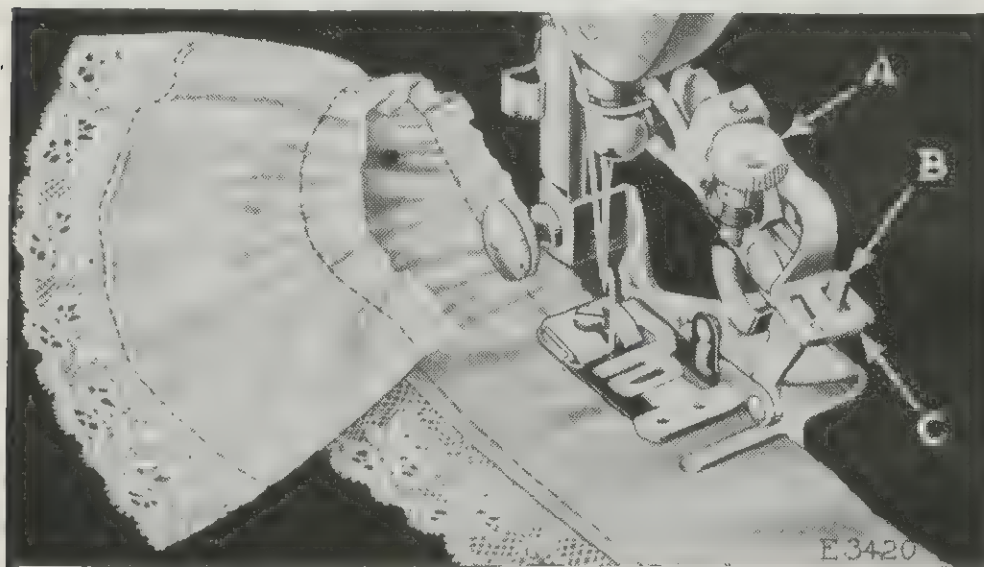

FIG. 33
Remove the presser foot and attach the ruffler in its place, connecting the arm with the needle clamp, as shown in Fig. 33.
To make a gather or plait at every stitch, raise the adjusting lever (C, Fig. 33) and move it to the left so that the projection (B, Fig. 33) will enter the slot marked "1" in the adjusting lever (C) when the lever is released. Place the material to be ruffled between the lower or separator blade and the ruffling blade, draw the material slightly back of the needle, lower the presser bar and commence to sew.
To make a finer gather or plait, shorten the stroke of the ruffling blade by turning the regulating thumb screw (A, Fig. 33) up, also shorten the stitch. To make a fuller gather or plait, lengthen the stroke of the ruffling blade by turning the regulating thumb screw (A) down, also lengthen the stitch. By varying these adjustments many pleasing varieties of work can be accomplished.